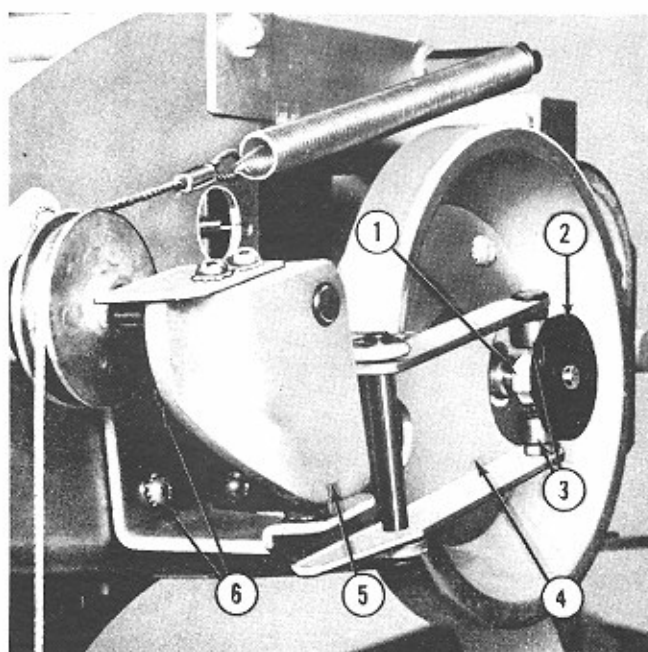
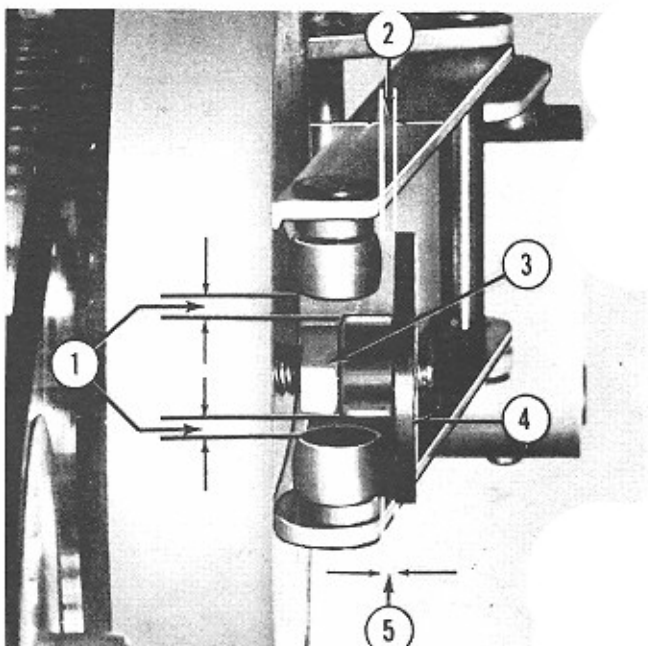

Fig. 76. RECORD CLAMP SETTING
Fig. 77. RECORD CLAMP SETTING
t. Record Clamp Settings. (Figs. 76, 77 and 78)
The turntable release arm is pivoted on a bracket which is mounted on the back plate of the top support casting. The turntable release arm rollers must be centered around the hub of the record clamp plate. This is done by loosening the two mounting screws (Item 6, Fig. 76) and shifting the mounting bracket to provide equal distance of the two rollers from the hub of the record clamp plate, as shown in Fig. 77, and re-tightening the mounting screws. The centering of the release arm rollers, described above, should be carefully re-checked before completing the record clamp adjustments which follow:
(1) Advance the cycle of the record changer to the full extent of the record clamp cam rotation as shown in Figure 76, and at the same time, clamp record disc X42226 on the turntable.
(2) Loosen the lock nut (Item 1, Fig. 76) and adjust record clamp plate (Item 2) to provide 1/32" to 1/16" clearance as shown at Items 2 and 5 of Figure 77. Maintain the clearance described above, tighten the lock nut, and re-check the adjustment.
(1) From the "at rest" position, advance the cycle of the record changer to a point where the record clamp just actuates to hold the record in place on the turntable, and turn off the power.
(2) Manually release the record clamp by pulling back on the record clamp plate (Item 4, Fig. 77) and clamp record disc X42226, facing to the rear, on the turntable.
(3) Manually advance the cycle by turning the record changer motor counter-clockwise until the pick-up needle is close to or touching the record disc.